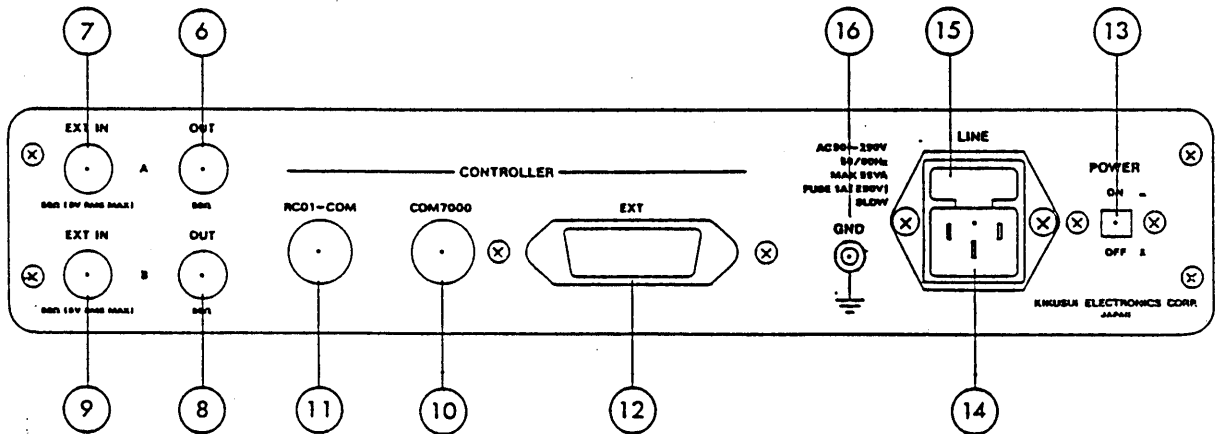

Figure 4-2
The entire operation of the PS01-COM is controlled by the signals fed through ⑫ EXT connector shown in Figure 4-2.